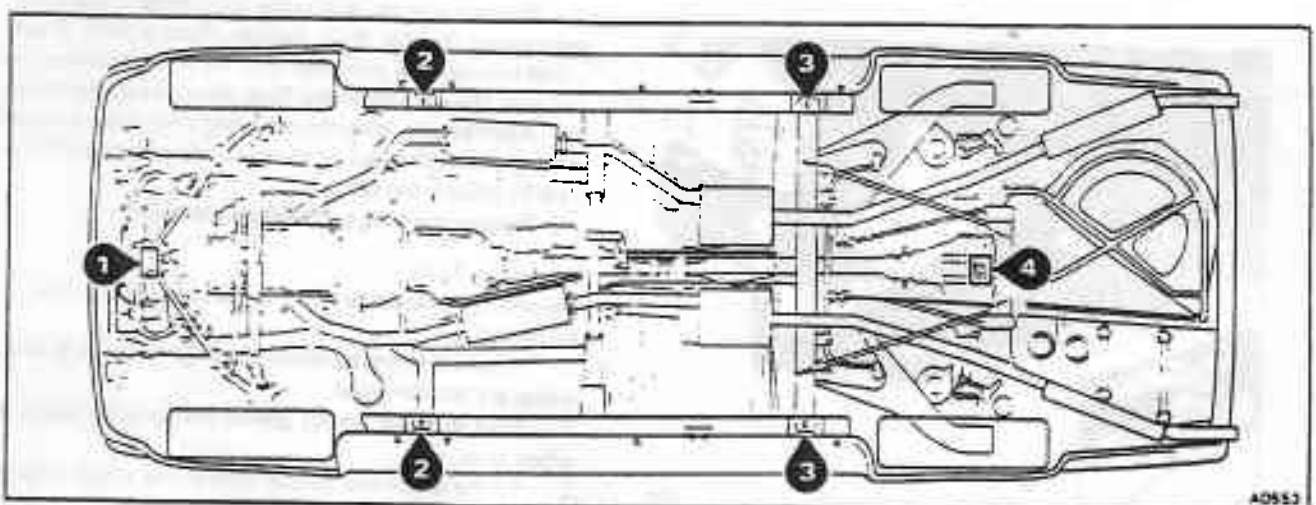
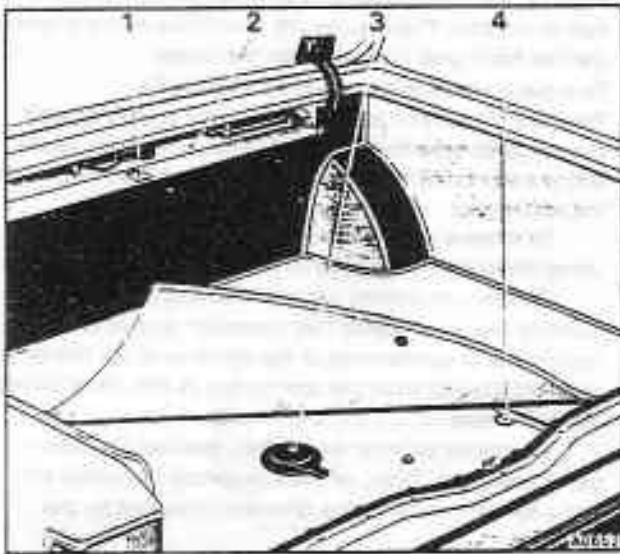

Fig. R1-1 Car jacking positions
Fig. R1-2 Luggage compartment
Refer to figure R1-1 for the car jacking positions. The car jack is stowed behind the trim panel situated at the front of the luggage compartment (see fig. R1-2).
removing the cover and a key for the wheel trim lock are contained in a pocket on the inside of the tool storage compartment trim flap (see fig. R1-2).
Position a trolley jack under the front pivot mounting for the lower triangle levers on the sub-frame (see fig. R1-1, item 1). Place a piece of soft wood between the jack head and the mounting.
Alternatively, raise the car using one of the two front jacking points situated on the car underbody (see fig. R1-1, item 2) utilizing the car jack.
Position a trolley jack under the centre of the final drive casing (see fig. R1-1, item 4). Place a piece of soft wood between the jack head and the final drive casing. Do not jack the car under the final drive crossmember.
Alternatively, raise the car using one of the two rear jacking points situated on the car underbody (see fig. R1-1, item 3) utilizing the car jack.
1. Remove the rubber access plug, situated underneath the luggage compartment floor carpet (see fig. R1-2).
3. Locate the carrier lowering bolt (see fig. R1-2). Then, fully lower the carrier and remove the spare wheel.